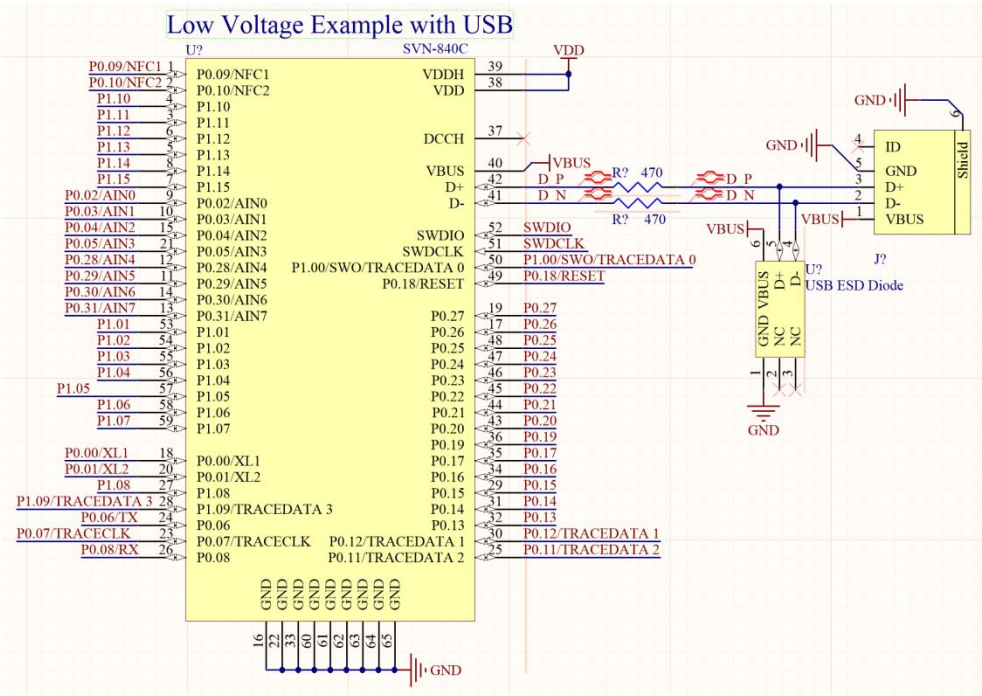
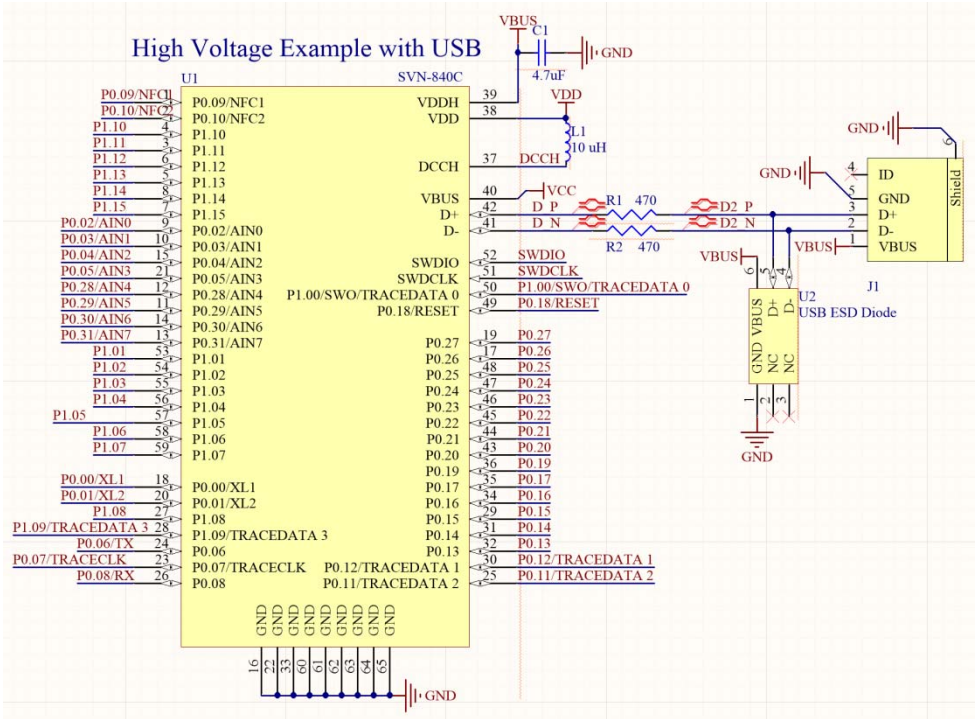

Figure 2: Normal (LV) Power Mode example
Figure 3: High Voltage (HV) Power Mode example
The USB interface on the SVN-840C can be used when the module is in either normal (LV) or high voltage (HV) mode. The SVN-840C USB PHY is powered by a dedicated, internal LDO regulator that is fed by the VBUS pin (40). This means VBUS power cannot power the rest of the module. If you want to power from USB, you must connect to VDDH as well as VBUS or use an external low drop out regulator or DC/DC converter to power VDD. For the USB PHY to operate, VBUS must be externally powered. Examples in Figure 2 and Figure 3 below.
6.1.2 Normal (LV) power mode example